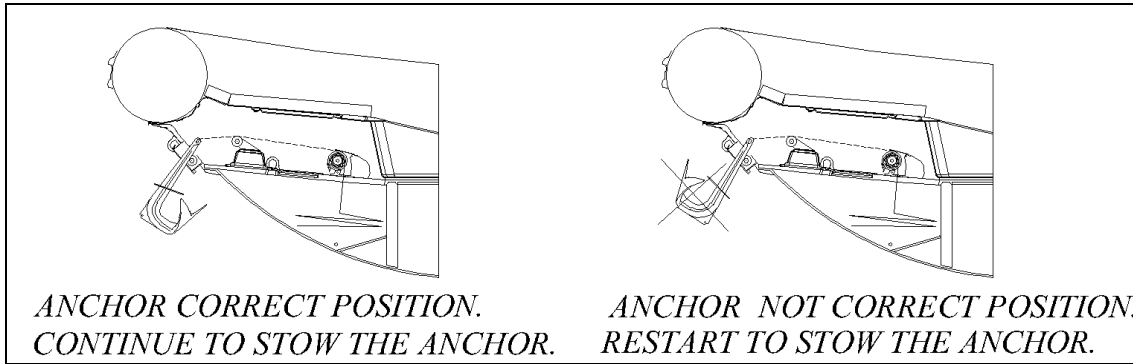

Fig.16
1. Set the windlass circuit breaker (8) to the OFF position (steering console, starboard side). To do this, press the button (8a). In this case, the lever switch (8b) will move to the down position.
2. Open the bow anchor hatch (10). By means of special handle close the clutch nut (3).
3. Check that the safety pin (6) is detached from chain.
4. Set windlass circuit breaker (8) and main battery switch (12) to the ON position.
5. Press the switch (9) "UP". As long as you hold this switch, the windlass raises the anchor.
6. When the anchor will begin to crawl on a roller, stop windlass electric motor in order to make sure that the anchor is not swinging and have occupied correct position. CHECK, THAT THE ANCHOR OCCUPIED CORRECT POSITION (Fig. 16).
8. Switch OFF the windlass circuit breaker (8).
9. Hook safety pin (6) to chain. Close the bow anchor hatches (10).